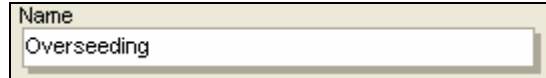

Figure 17.2.2
1. Click on the **Name** box and type in a new name that might better describe the use for the Manual Program. (Example: Over seeding) (Figure 17.2.2).